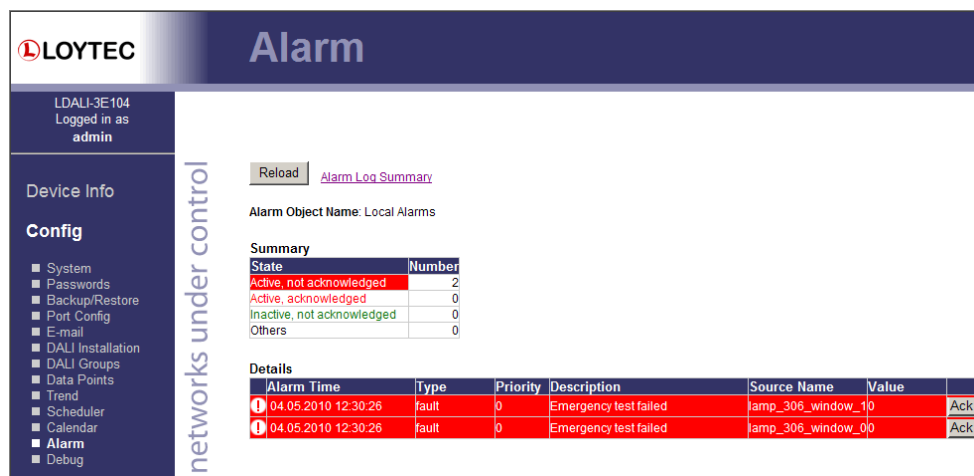

Figure 139: Emergency Light Test Alarm
Mains test (*value* = 100%): Typically used in a central battery system, to verify lights are dimmed to the emergency level when mains fail. When the test is started via *nviEmergTest*, the power of the emergency lamps is cut by setting the switch network variable output *nvoPowerOff* to ON. After the delays *nciEmTestDelay*, the value of all lamps in the group is compared to the reference value specified in *nciEmTestValue*. If a lamp does not reach the reference value (dim value above or below reference value) or if a lamp is offline, an alarm is generated as shown in Figure 139.
Description	<p>Used to start the test of emergency lamps in a group. To start the test the state part of the SNVT_switch must be set to SW_ON (1). The value part selects one of the following tests:</p> <p>Function test (value = 1%): Starts the function test of all DALI emergency lights in this group, which support this function. For details on the DALI emergency lighting function test see IEC 62386-202. If the Emergency interface is enabled the nvoFuncTestFail will show whether the last function test performed has failed.</p> <p>Duration test (value = 2 %): Starts the duration test of all DALI emergency lights in this group, which support this function. For details on the DALI emergency lighting duration test see IEC 62386-202. If the Emergency interface is enabled the nvoDurTestFail will show whether the last duration test performed has failed.</p> <p>Mains test (value = 100%): Typically used in a central battery system, to verify lights are dimmed to the emergency level when mains fail. When the test is started via nviEmergTest, the power of the emergency lamps is cut by setting the switch network variable output nvoPowerOff to ON. After the delays nciEmTestDelay, the value of all lamps in the group is compared to the reference value specified in nciEmTestValue. If a lamp does not reach the reference value (dim value above or below reference value) or if a lamp is offline, an alarm is generated as shown in Figure 139.</p> <p>Test results will be stored in the appropriate emergency light test log (see Section 7.1.4). To abort any active test the SNVT_switch must be set to {SW_OFF, 0% }.</p>